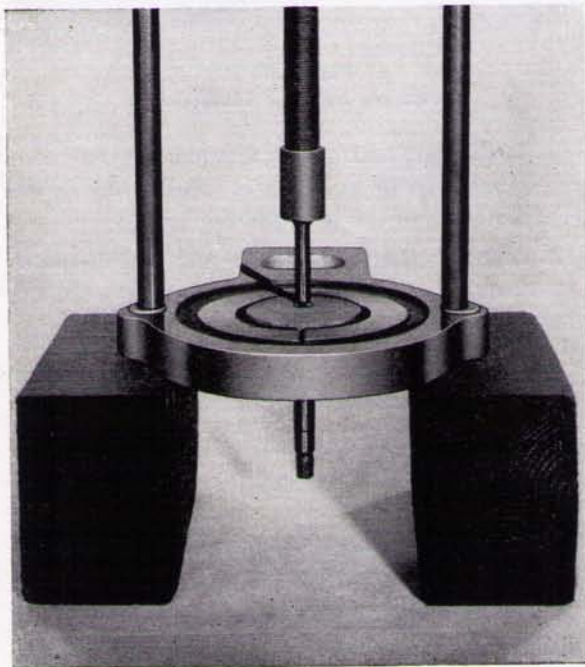

Fig. Q.6.
7. If the impeller is to be removed from the shaft it should be set up as shown in Fig. Q.6.